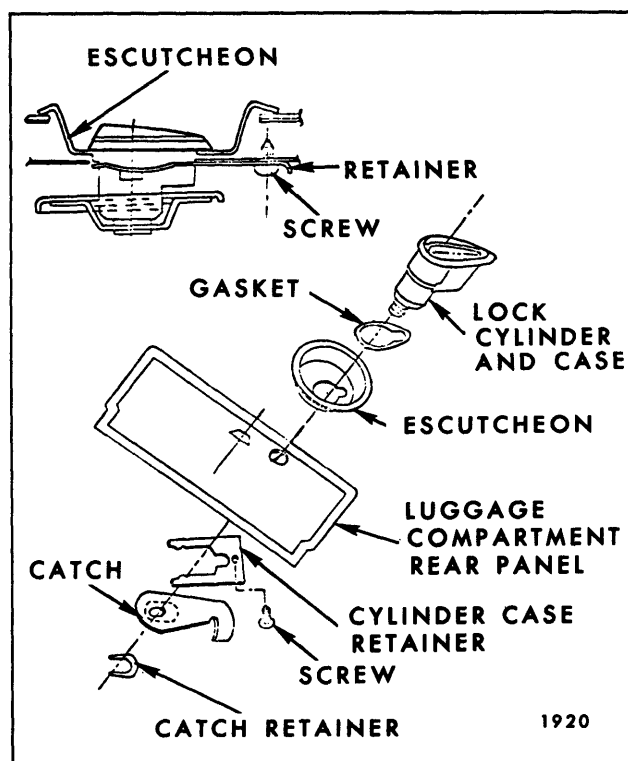

Fig. 15-65—Luggage Compartment Lock Chevrolet - "B" Styles
2. On underside of luggage compartment rear panel remove catch retainer and catch from lock cylinder case (Fig. 15-65), then turn lock cylinder with key until cylinder can be removed from case.
2. On underside of luggage compartment rear panel, remove catch retainer and catch (Fig. 15-65).
3. Remove lock cylinder case retainer screw and retainer (Fig. 15-65); then, remove lock cylinder and case, gasket and escutcheon from panel (Fig. 15-65).